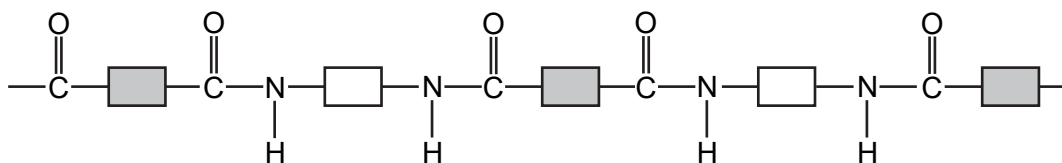
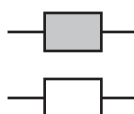

Fig. 6.1
Fig. 6.2
- (a) Part of the structure of a polyamide is shown in Fig. 6.1.
- (i) On Fig. 6.1, draw a circle around **one** amide linkage. [1]
- (ii) Complete Fig. 6.2 to show the structures of the **two** monomers needed to make the polymer in Fig. 6.1. Show all of the atoms and all of the bonds in the functional groups.